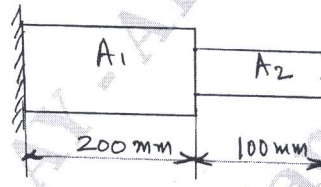

Fig.Q10(b)
b. For the stepped bar shown in Fig.Q10(b), determine the eigen values and eigen vector. Take $A_1 = 400 \text{ mm}^2$, $\rho = 7850 \text{ kg/m}^3$, $E = 200 \text{ GPa}$, $A_2 = 200 \text{ mm}^2$. (10 Marks)